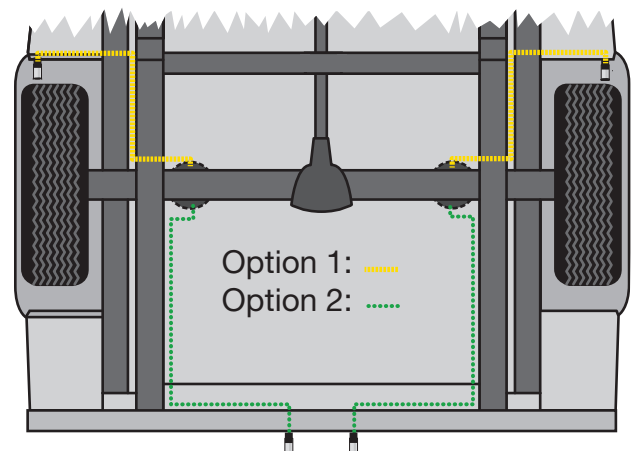

fig. 8
4. Place a 5/16" nut and star washer on the air valve. Leave enough of the inflation valve in front of the nut to extend through the hole and have room for the rubber washer, flat washer, and 5/16" nut and cap. There should be enough valve exposed after installation – approximately 1/2" – to easily apply a pressure gauge or an air chuck (Fig. 8).